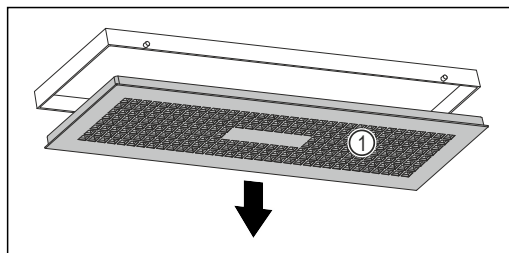

Fig. 107
- Slowly turn the water box down while holding the cover Fig. 107 (1).
- Remove the cover Fig. 107 (1).